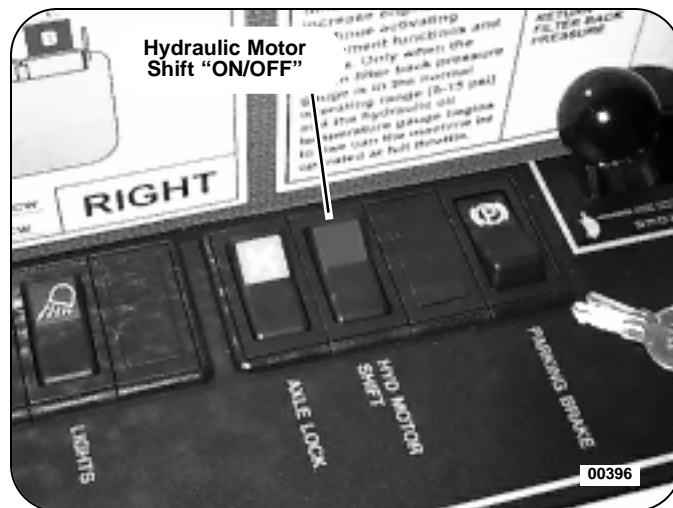

Figure 37: Hydraulic Motor Shift Control
7. Instruct the operator or another mechanic to select hydraulic motor shift "ON" (switch lighted) while you take a pressure reading. See Figure 37. Record the pressure reading.